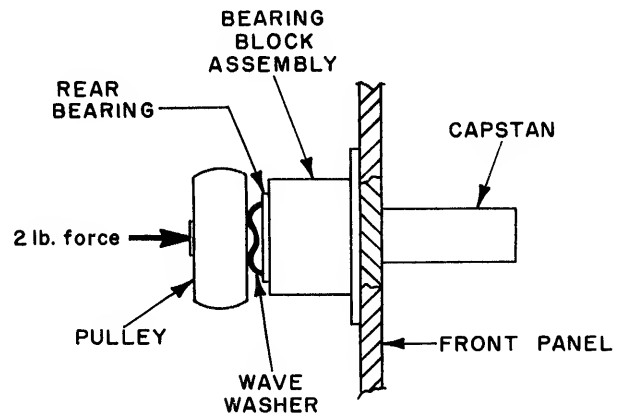

Figure 5-3. Capstan Bearing Preload Adjustment
f. Apply 2 pound force to rear of capstan shaft (see Figure 5-3) to preload wave washer; tighten capstan setscrew securely.